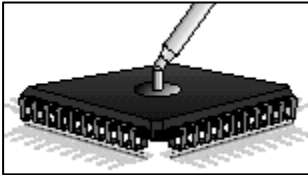

Figure 1: Position Component.
3. Position component ensuring proper lead-to-land alignment. Hold component in place using the vacuum pick-up tool or tweezers. (See Figure 1.)